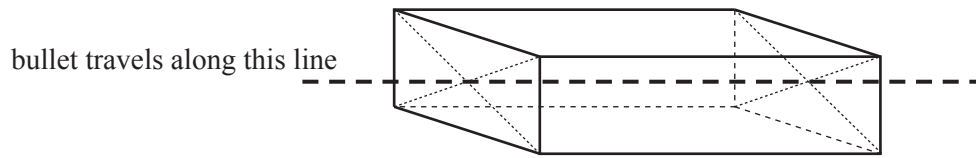

Fig. 2.1
- 2 (a) A bullet of mass 0.04 kg is fired into a fixed uniform rectangular block along a line through the centres of opposite parallel faces, as shown in Fig. 2.1.